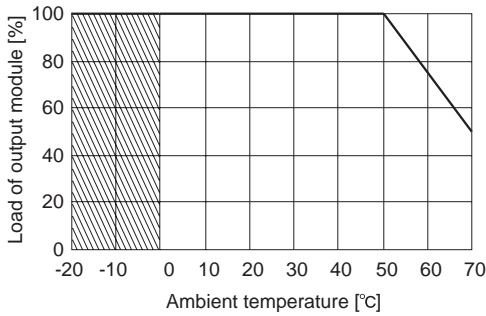

Fig. 4.6 Derating curve for ambient temperature
■The derating curve for the ambient temperature (inlet temperature for cooling) of output modules is shown in Fig. 4.6.
Accordingly, because the derating curve (Fig. 4.6) indicates that up to 100% of the maximum load can be used up to 50°C and the largest value amongst A₀, A₁₁, A₂₁, A₃₁, A₄₁, and A₅₁ is 100%, this assures that these input and output conditions are acceptable.
Accordingly, because the derating curve (Fig. 4.6) indicates that up to 100% of the maximum load can be used up to 50°C and the largest value amongst A₀, A₁₁, A₂₁, A₃₁, A₃₂, A₄₁, and A₅₁ is 96%, this assures that these input and output conditions are acceptable.